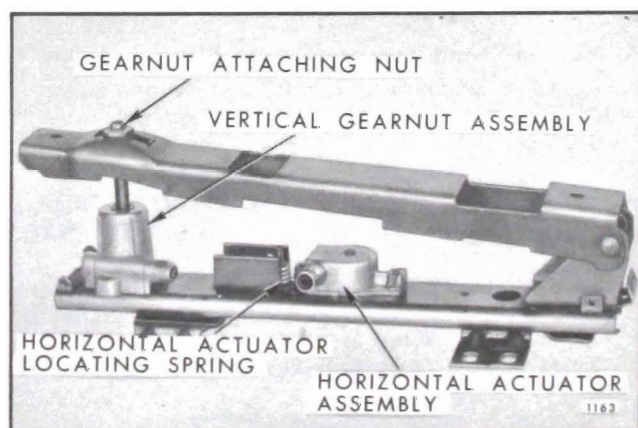

Fig. 15-11 — Four-Way Seat Adjuster - Buick "B-C & E" Styles
2. Remove vertical gearnut attaching nut at adjuster upper track (Fig. 15-11). Lift rear of channel upward and remove gearnut tension spring and washer (15-12).
3. Lay adjuster on its side and remove screws securing vertical gearnut to adjuster lower track; then, remove gearnut from adjuster (Fig. 15-11).
4. To install, reverse removal procedure. Make sure horizontal actuator locating spring is properly positioned (Fig. 15-11 and 15-12).